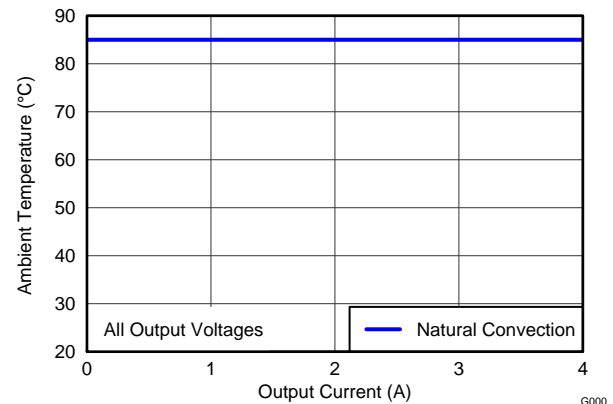

Figure 9. Safe Operating Area
- (2) The temperature derating curves represent the conditions at which internal components are at or below the manufacturer's maximum operating temperatures. Derating limits apply to devices soldered directly to a 100 mm × 100 mm double-sided PCB with 1 oz. copper. Applies to Figure 9.